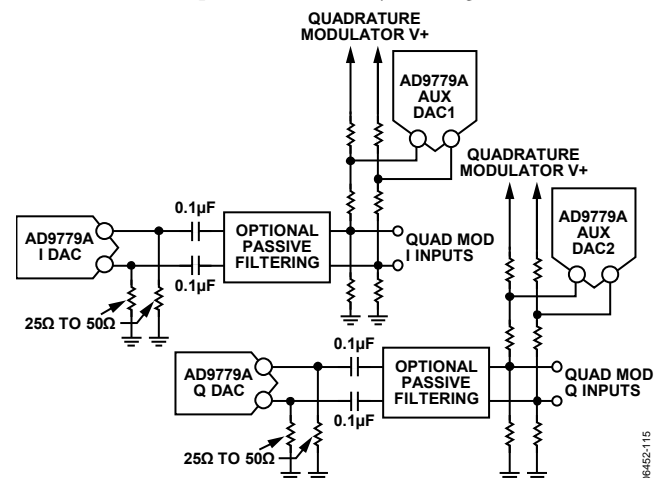
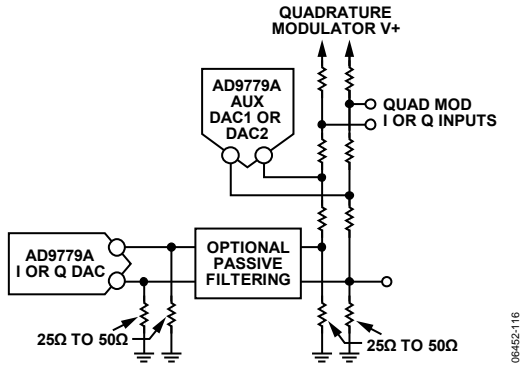

Figure 79. Typical Use of Auxiliary DACs AC Coupling to Quadrature Modulator
Figure 80. Typical Use of Auxiliary DACs DC Coupling to Quadrature Modulator with DC Shift
The auxiliary DACs can be used for local oscillator (LO) cancellation when the DAC output is followed by a quadrature modulator. This LO feedthrough is caused by the input referred dc offset voltage of the quadrature modulator (and the DAC output offset voltage mismatch) and can degrade system performance. Typical DAC-to-quadrature modulator interfaces are shown in Figure 79 and Figure 80. Often, the input common-mode voltage for the modulator is much higher than the output compliance range of the DAC, so that ac coupling or a dc level shift is necessary. If the required common-mode input voltage on the quadrature modulator matches that of the DAC, then the dc blocking capacitors in Figure 79 can be removed. A low-pass or band-pass passive filter is recommended when spurious signals from the DAC (distortion and DAC images) at the quadrature modulator inputs can affect the system performance. Placing the filter at the location shown in Figure 79 and Figure 80 allows easy design of the filter, as the source and load impedances can easily be designed close to $50\ \Omega$.